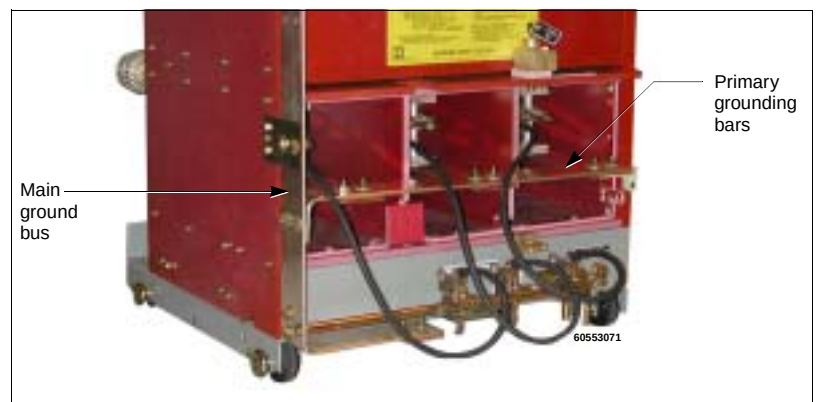

Figure 18: Primary Grounding Bars Installed
3. Install the primary grounding bars to the main ground bus (see Figure 18) and then to the primary extension terminals. Torque all bolts to 35 lb-ft (26 N•m).